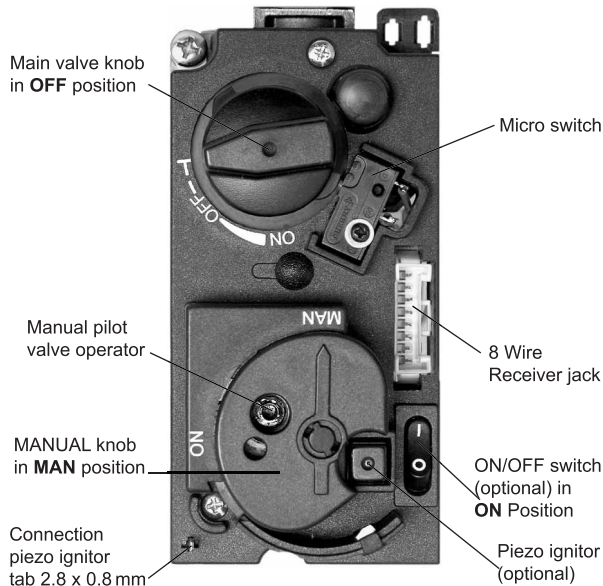

Figure 19
- Wait five (5) minutes to clear out any gas. Verify that no gas is in the area around the appliance, including near the floor. If you detect gas stop! Follow "What to do if you smell gas" in the safety information on page 14. If no gas is present, proceed to step 6.
- Fully push down manual pilot valve operator and hold in, to start pilot gas flow (see figure 19, page 22).
Change the ignition cable from the receiver to the valve (see figure 19, page 22). Push in the piezo ignitor to ignite. If pilot does not stay lit, wait five (5) minutes and repeat.